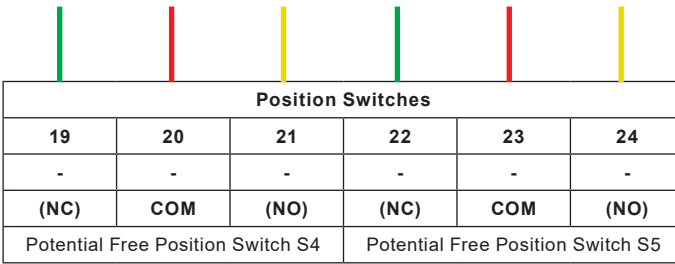

Fig. 10 Auxiliary Travel Switch Terminal Diagram
- Configure and connect the switches to the control system as shown in Fig. 10 Auxiliary Travel Switch terminal Diagram
- Connect the wiring harness from switch S4 to terminals 19-21, and switch S5 to terminals 22-24 as shown in Fig. 10 Auxiliary Travel Switch Terminal Diagram
- Configure the switches to the control system is also shown shown in Fig. 10 Auxiliary Travel Switch Terminal Diagram